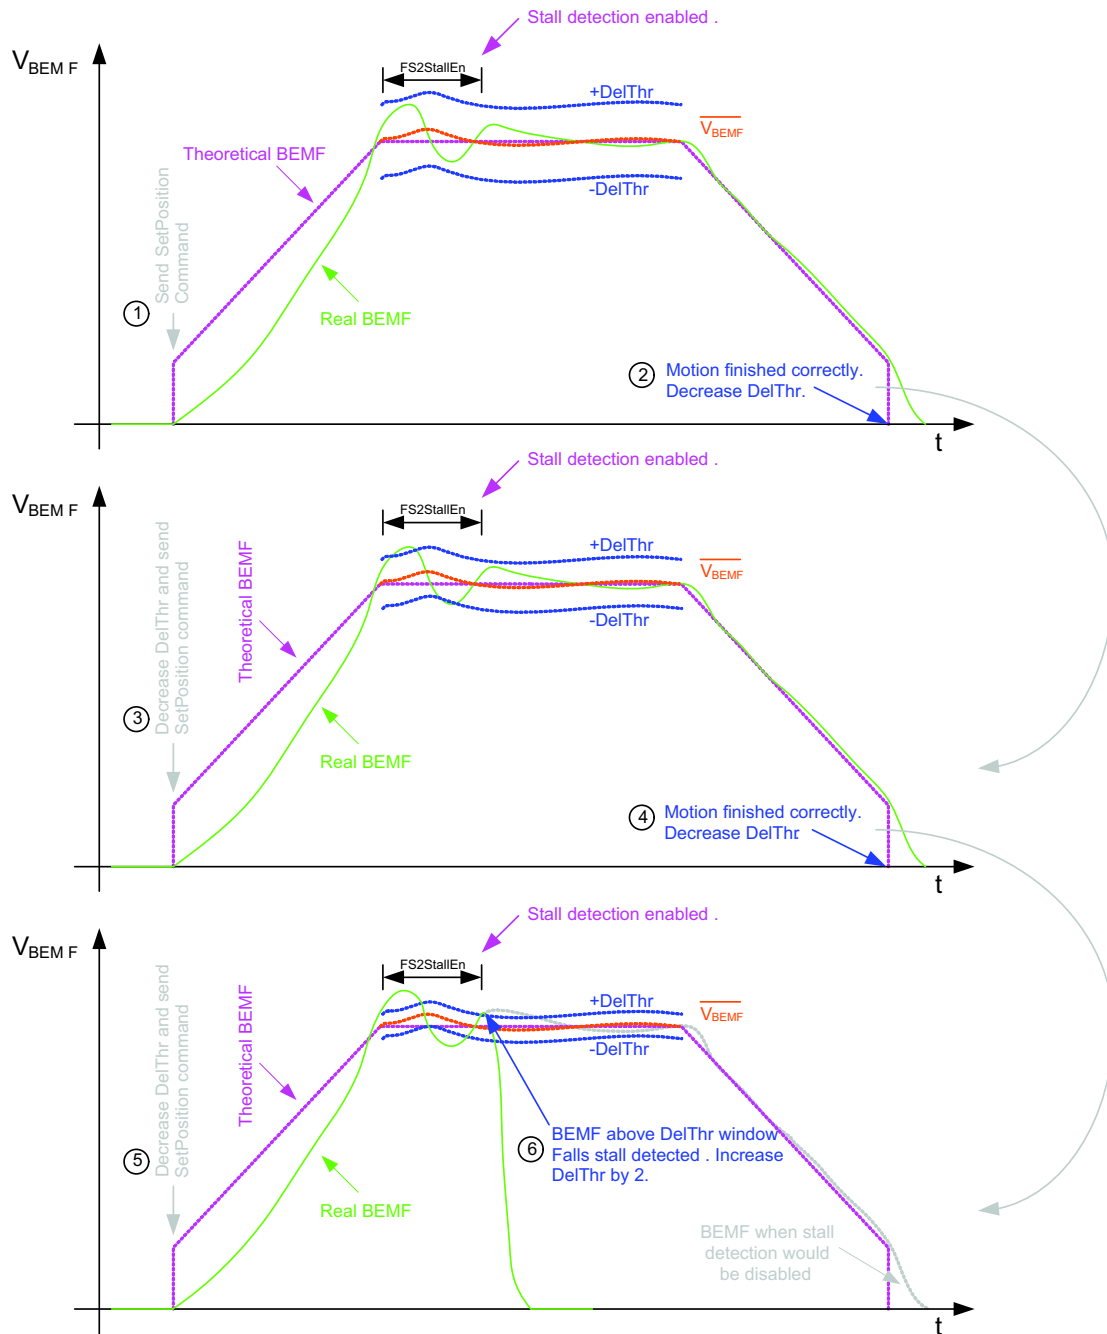

Figure 39. Define DelThr for a Non-Free Running Motor (Not Applicable for the NCV70627)
Step 4b: Set DelThr to the maximum value and do a SetPosition. If the motion was completed correctly, decrease DelThr by one and repeat the SetPosition. Do this until a stall was detected without hitting an end position (= falls stall). If falls stall is detected, the DelThr value is set too high. Increase the (hexadecimal) value by 2 (if possible) to have a good DelThr setting. Figure 39 gives a better view on this.